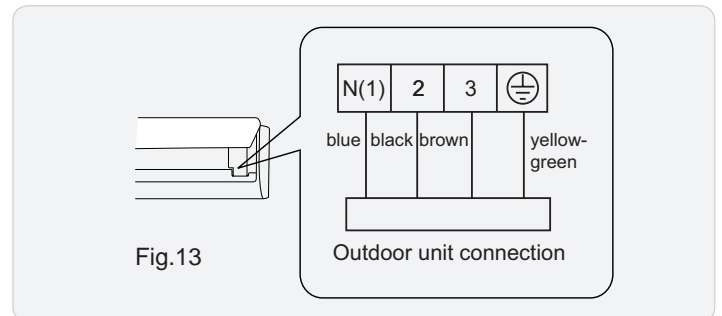

Fig.13
(3) Remove the wire clip; connect the power connection wire signal control wire (only for cooling and heating unit) to the wiring terminal according to the color; tighten the screw and then fix the power connection wire with wire clip.(As show in Fig.13)